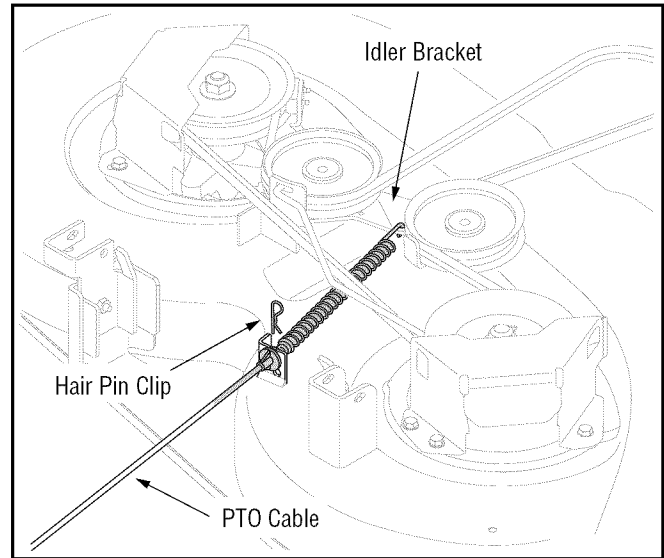

Figure 23
- Carefully remove the PTO cable from the rear of the cutting deck by removing the hair pin clip which secures it. Proceed to remove the spring from the deck idler bracket. See Figure 23.